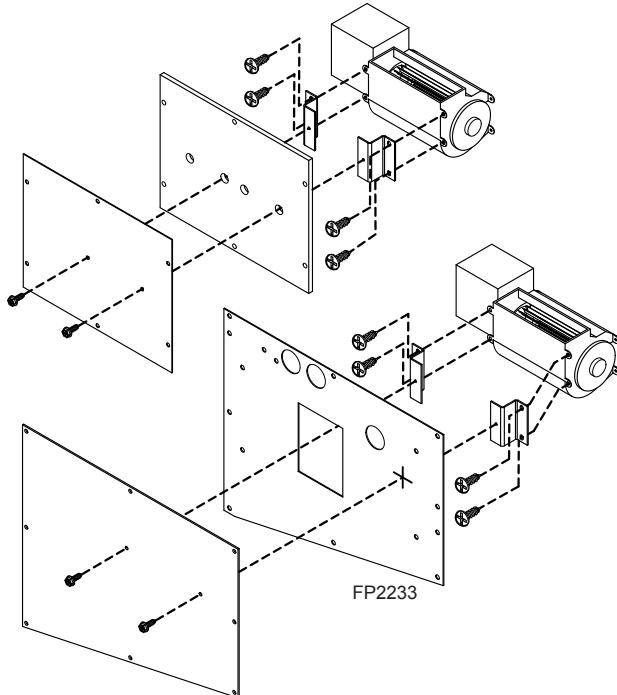

**Figure 32 -
7. Remove the access covers on the right and left side walls of the firebox toward the front by unfastening the screws. **NOTE: The access covers are not identical.** *Figure 32*